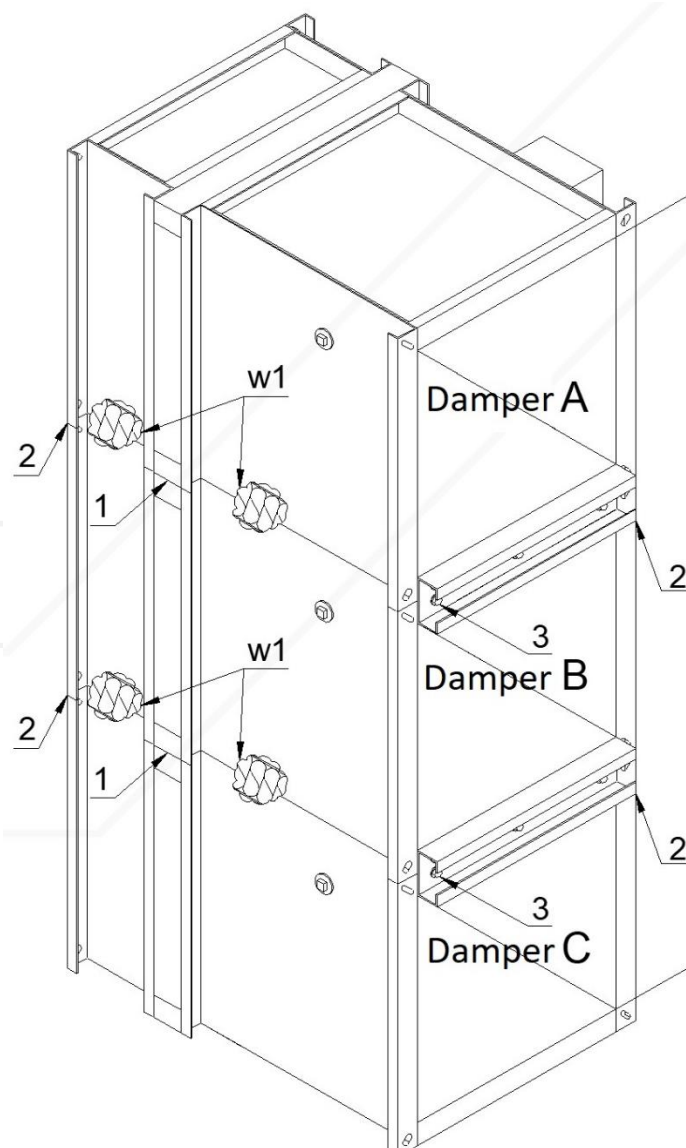

Figure 14. Arrangement 2 - vertical battery consisting of three fire dampers KWP
Arrangement 4 – battery consisting of four fire dampers KWP (Figure 14)
- a. Fix the gasket on insulating spacer of one of adjoining fire dampers (position (1) in the Figure 14).
- b. Set together the sides of fire damper A and the fire damper B (where the gasket was fixed) and assemble them together on the front and back with use of perforated assembly strips (2) and self-tapping screws M6x10 (3), which should be tightened into the openings in fire damper body. In order to carry out the correct assembly, 4 self-tapping screws should be used per each assembly strip with length of 1200 [mm].